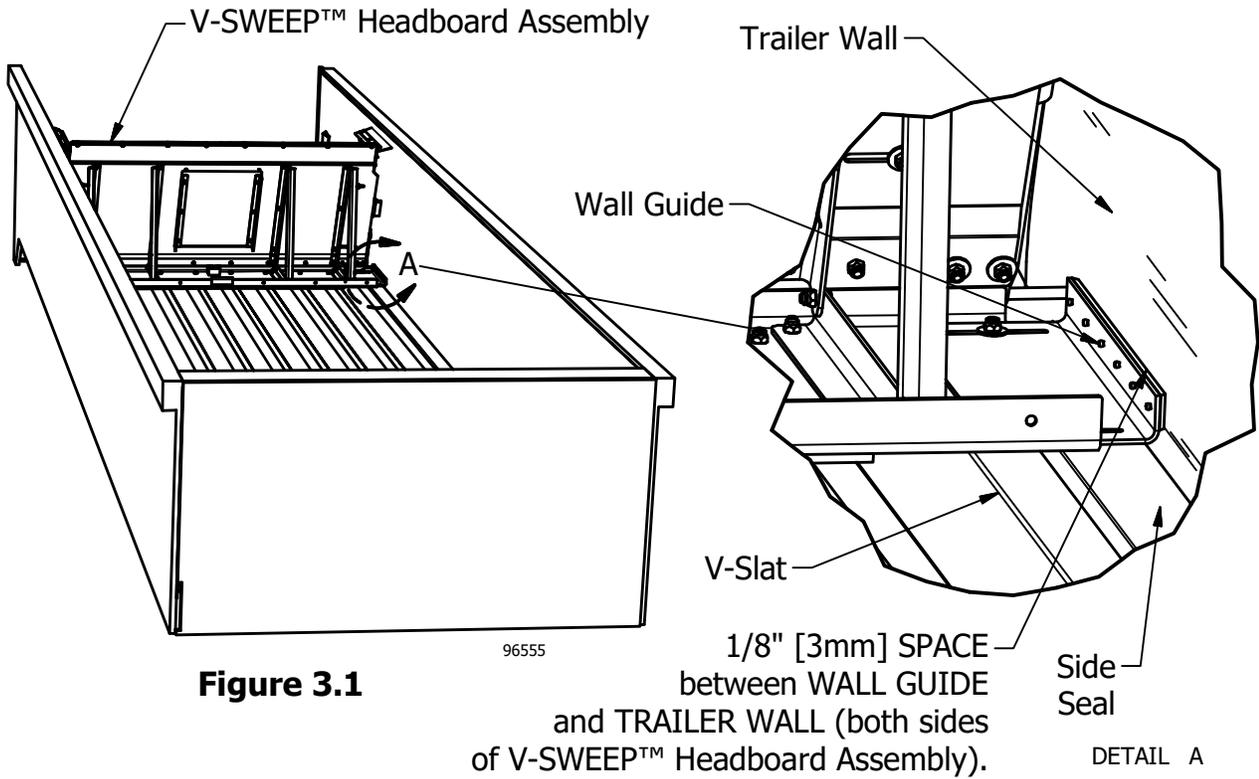

Figure 3.1
Step 3: (Figure 3.1) Adjust wall guide: Move headboard to the narrowest part of the trailer body, then Center and Square V-SWEEP™ headboard assembly. Adjust wall guides so there is 1/8" (3mm) clearance on both sides. Make sure that there are no welds, bolts, etc. that will be hit by the wall guides as the V-SWEEP™ headboard assembly moves from the front of the trailer to the rear.